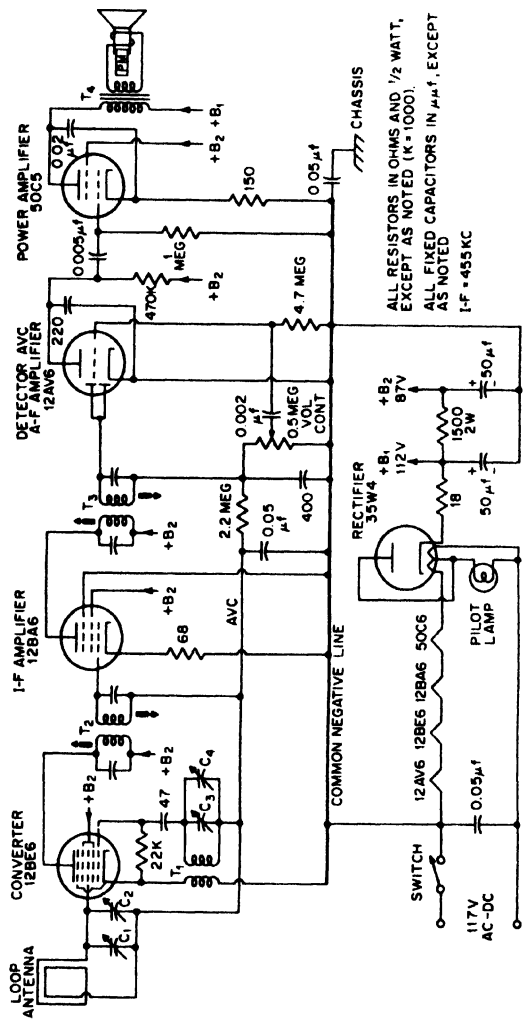

Fig. 28-2. AC-DC superheterodyne receiver. (Courtesy of General Electric Company)
**AC-DC Superheterodyne Receiver.** Most radio receivers manufactured today are of the small AC-DC table model that does not use a power transformer. A typical circuit is the one employed in the General Electric Model 412 receiver that is illustrated in Figure 28-2. This is a superheterodyne circuit using five miniature tubes.